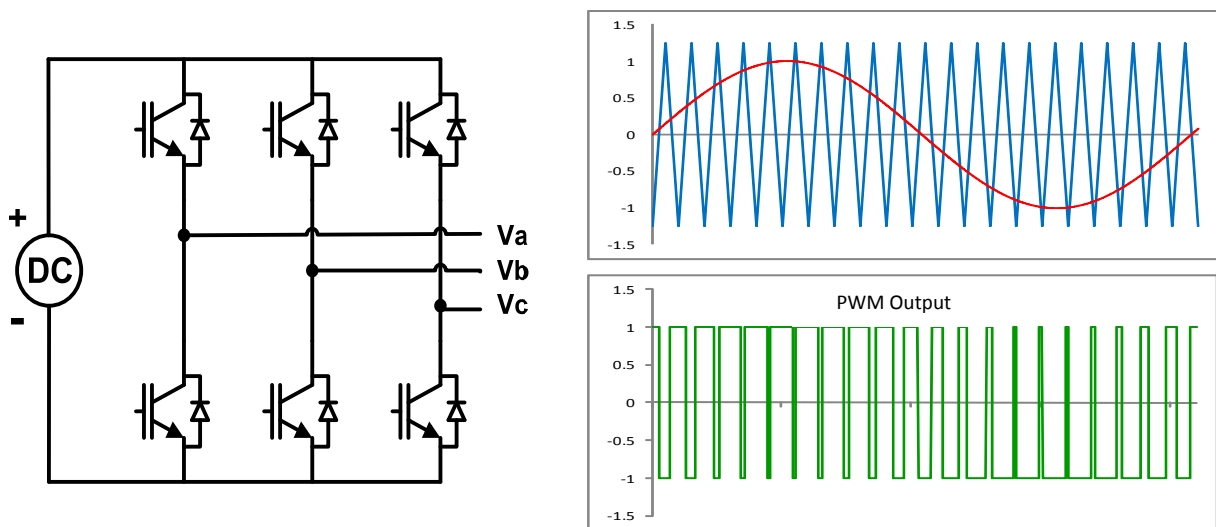

Figure 1. Three Phase Inverter PWM Generation
As shown in Figure 1, the PWM waveform is generated by comparing a reference signal (sinusoidal red trace) and a carrier waveform (triangular blue trace). The PWM waveform controls the Insulated Gate Bipolar Transistor (IGBT) switches to generate the AC output. When the reference signal is bigger than the carrier waveform, the upper IGBT is triggered on (lower IGBT being off) and positive DC voltage is applied to the inverter output phase (A). In the other case, when the reference signal is smaller than the triangular carrier waveform, the lower IGBT is turned on (upper IGBT being off) and negative DC voltage is applied to the inverter output. The reference signal magnitude and frequency determine the amplitude and the frequency of the output voltage. The frequency of the carrier waveform is called the modulation frequency. In order to generate more precise sinusoidal AC voltage waveforms and keeping the size of the LC filter small, high modulation frequencies are generally used.